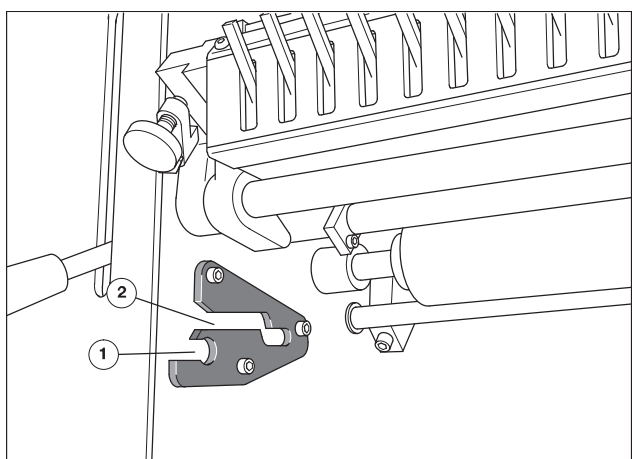

Fig. 75 Inserting the inking roller washup device
1. Insert the inking roller washup device with the pins on D.S. (Fig. 74/1 and 74/2) and O.S. in the guides (Fig. 75/1 and 75/2).